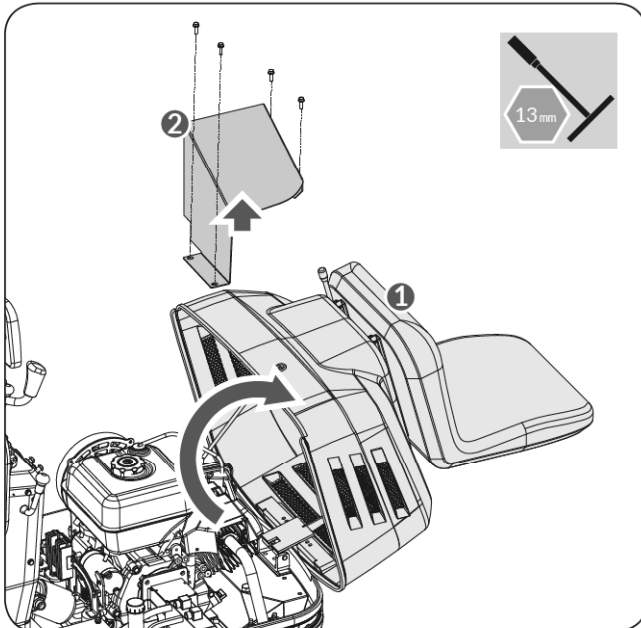

Figure 120
1. First, open the engine hood and then use a sleeve to remove the engine guard. (See **Figure 120**)